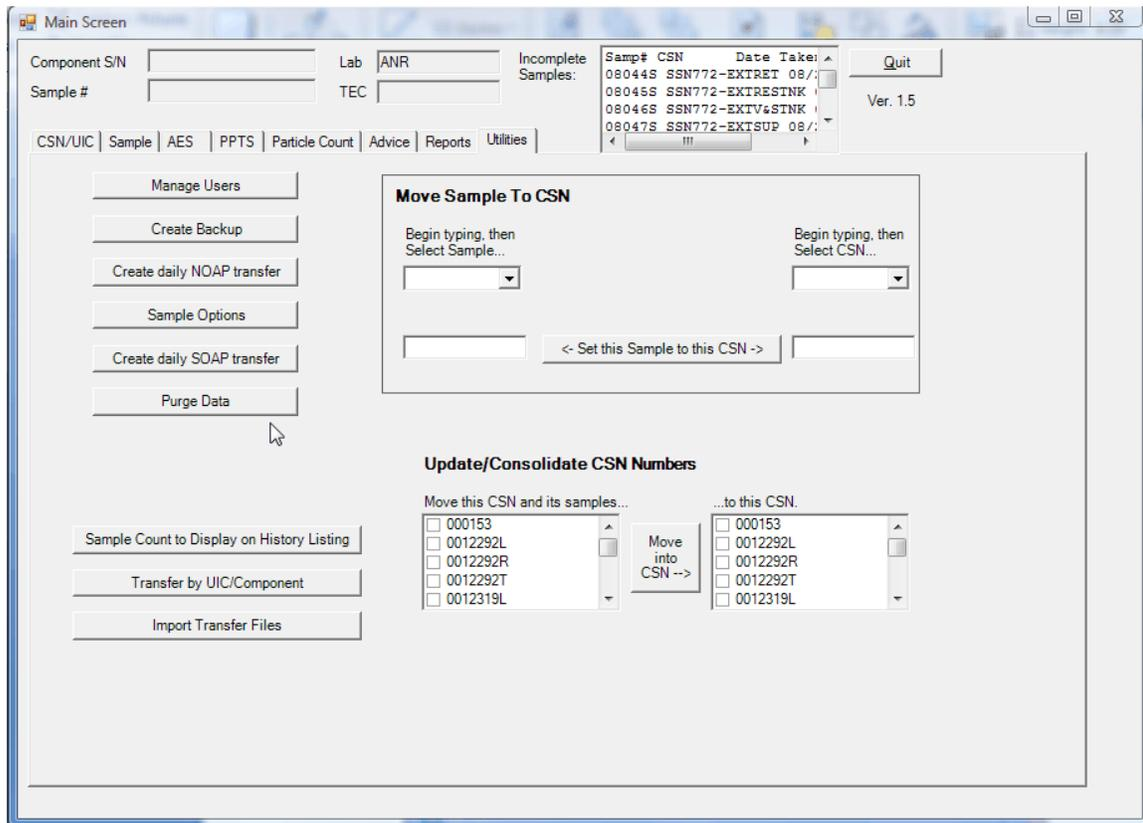

Figure 99. Utilities
- e. Sample count to display on history listing. From the main sample screen press the Utilities tab and the following screen will appear (Figure 99). Sample count to display on history listing determines how many samples will appear on the history listing report.